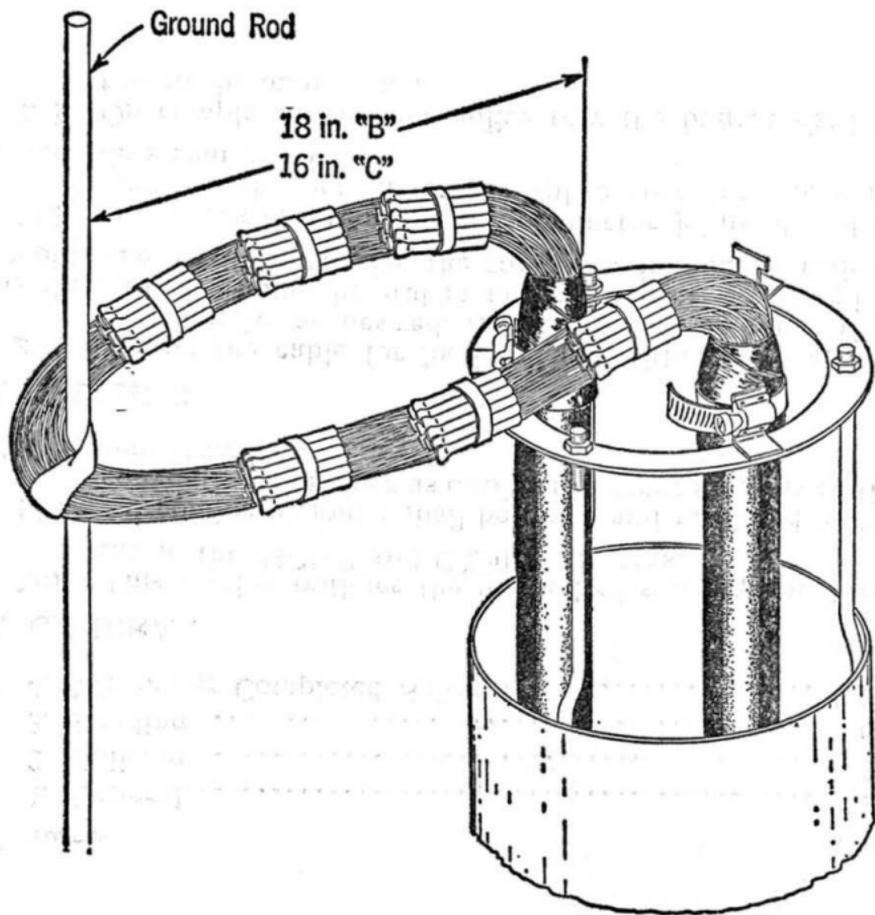
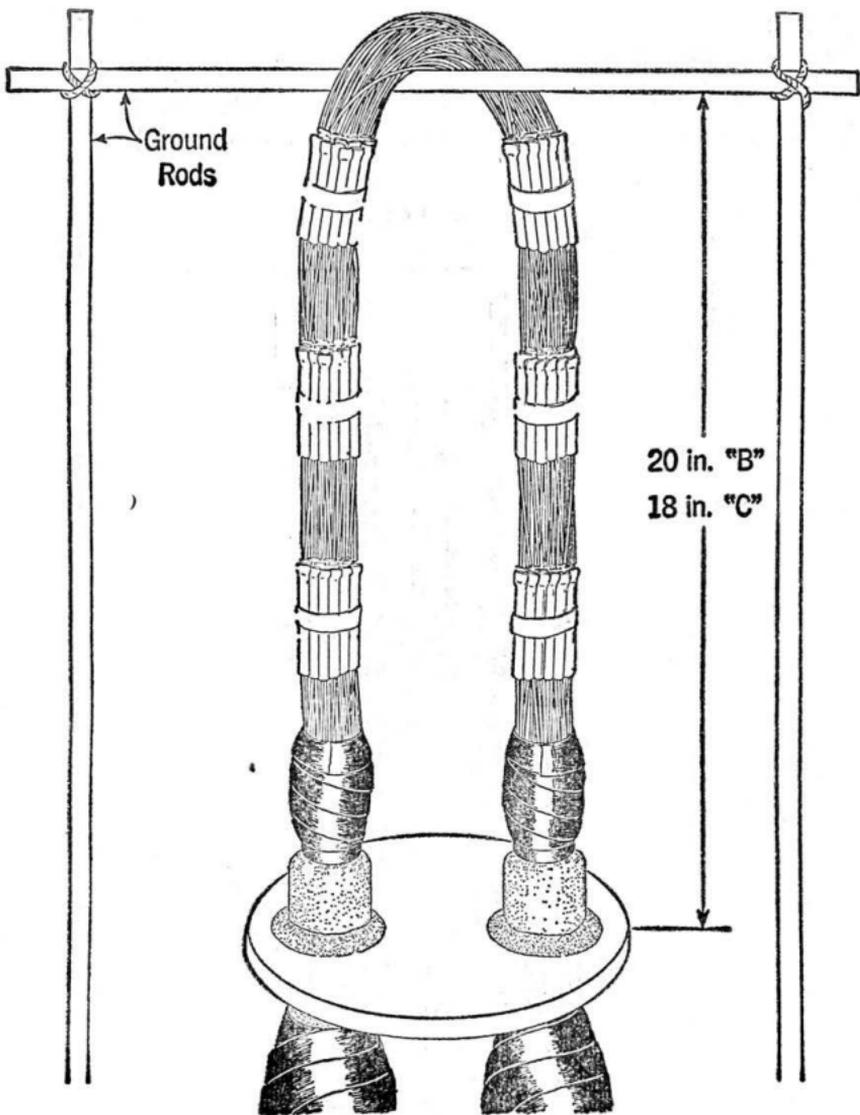

Fig. 1
Fig. 2
2.04 Fig. 1 and Fig. 2 illustrate completed splices made vertically and horizontally and the suggested set-ups for making them.